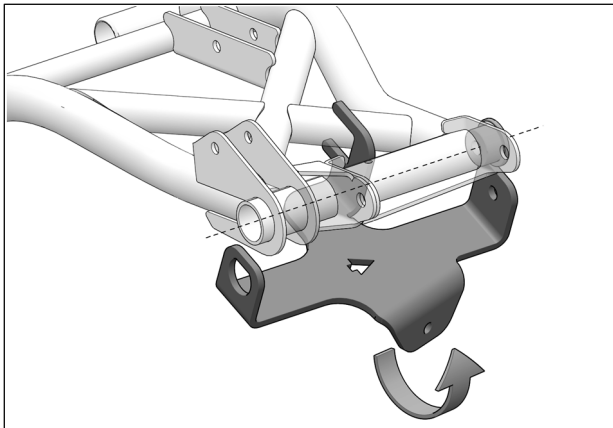

Fig. 6
7. Pivot front of anchor bracket upward and align its mounting holes with suspension arm tube holes. See Fig. 6